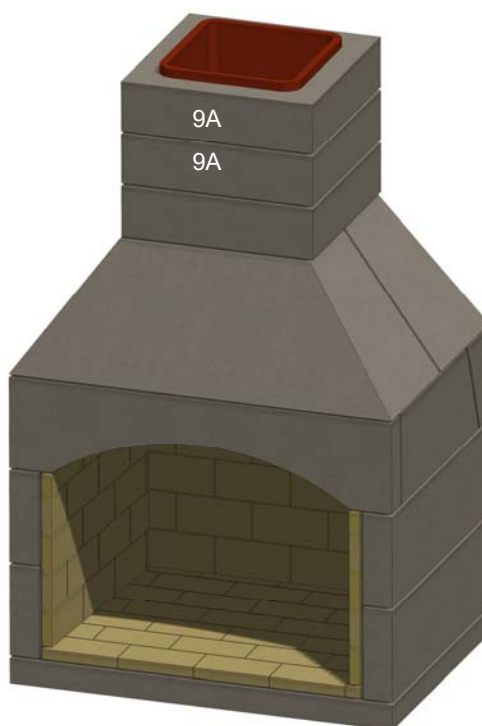

Figure 21. Chimney Complete
N. Install the remaining chimney sections (9A), fully bedding each piece in mortar, and filling in the gap between the clay tiles in each section. Parge the joints to create a smooth transition between each chimney section. Note that if a tile is chipped or slightly out of square, it may be used as long as it the joints are filled and smoothed with high temperature mortar. See Figure 21.